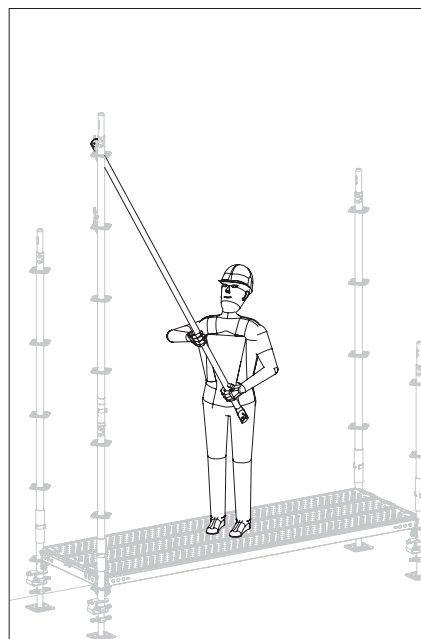

Fig. A5.09a
- The assembly can also be carried out "advanced" and "double-advanced" with guardrails and intermediate guardrails. (Fig. A5.09a + A5.09b)